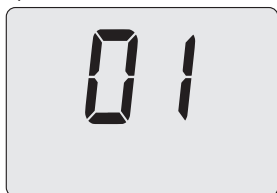

Figure 7.11
- Press 17 (Figure 7.2) to show the value of parameter P06 on the LCD display (Figure 7.11).